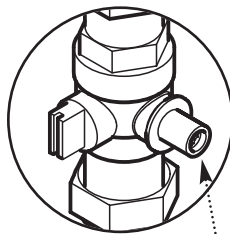

Fig. 40a
15. With the boiler operating in the maximum rate condition check that the operational gas pressure at the inlet gas pressure test point is 20mb (Fig. 40a).